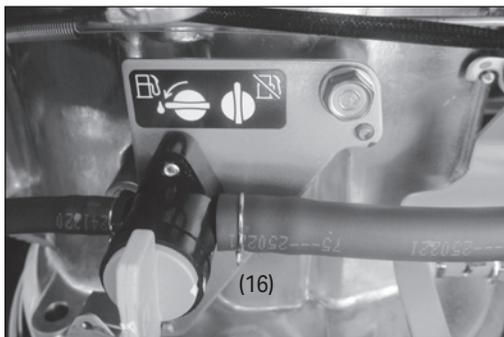

Fig.21
8.2 Draining the Fuel (Fig.21)